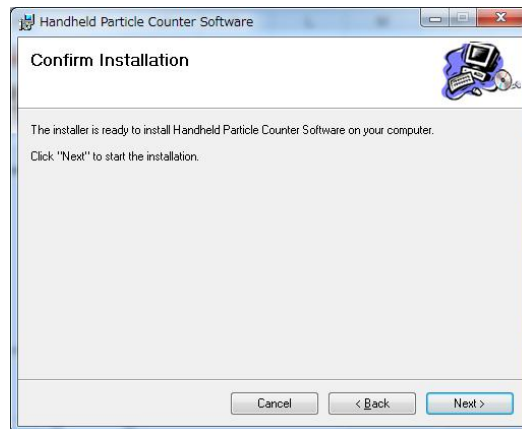

Figure 2-3
- 3) Click the Next button to display the dialog box as shown in Figure 2-3 below: